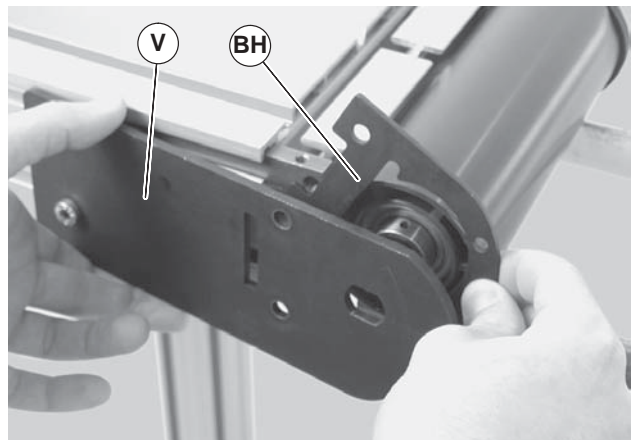

Figure 46
3. Pull back the outer headplate (Figure 46, item V) and remove the inner spacer (BH).